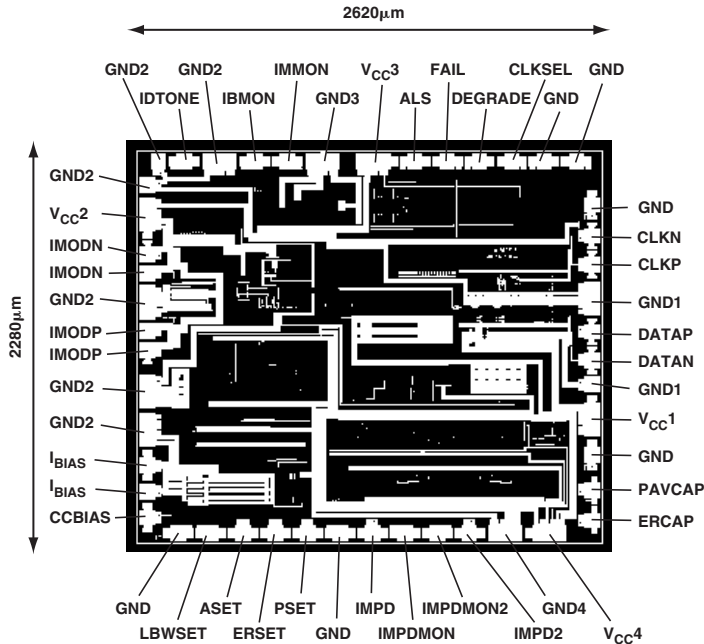

Figure 2. Metallization Photograph
*With the origin in the center of the die (see Figure 2).